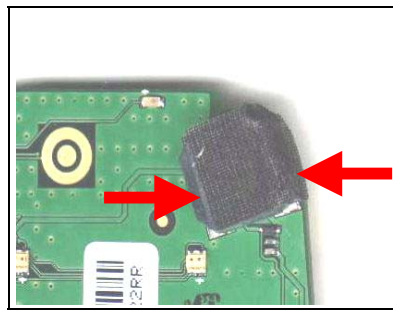

Fig. 7.1
- Check the Buzzer (Fig. 7.1) if it's incorrectly soldered.